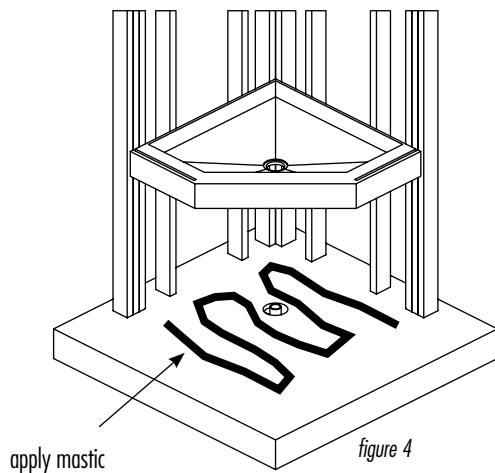

figure 4
6. Apply the wall panel adhesive to the floor area where the shower pan is to be installed (fig. 4). (See Wall Panel Adhesive recommendations chart)